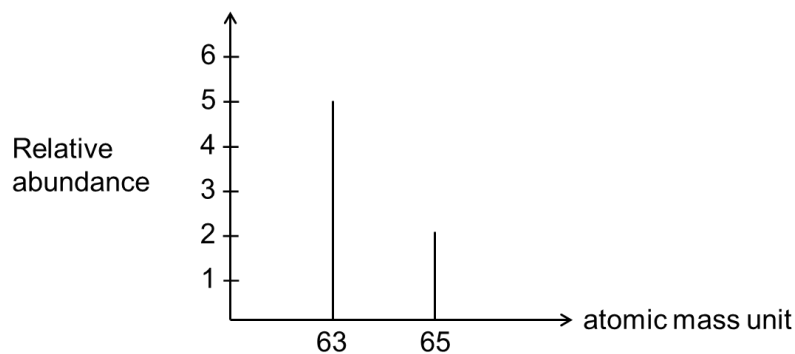

Fig. 6.1
- (ii) Using Fig. 6.1, determine the relative atomic mass, A_r , of copper. Give your answer to 4 decimal places. [1]